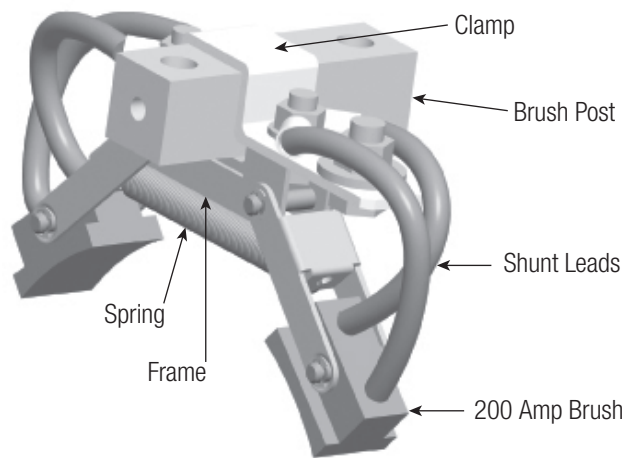

Figure: 4-2
- b. On the metal type DF holder assembly with dual brushes **See Figure 4-2:** If the wide portion of the brush is worn to 0.50" or less, replace the brush holder assembly.
4.3.5 To remove and replace metal type DF style brush holder assembly on fiberglass brush post **See Figure: 4-2**: